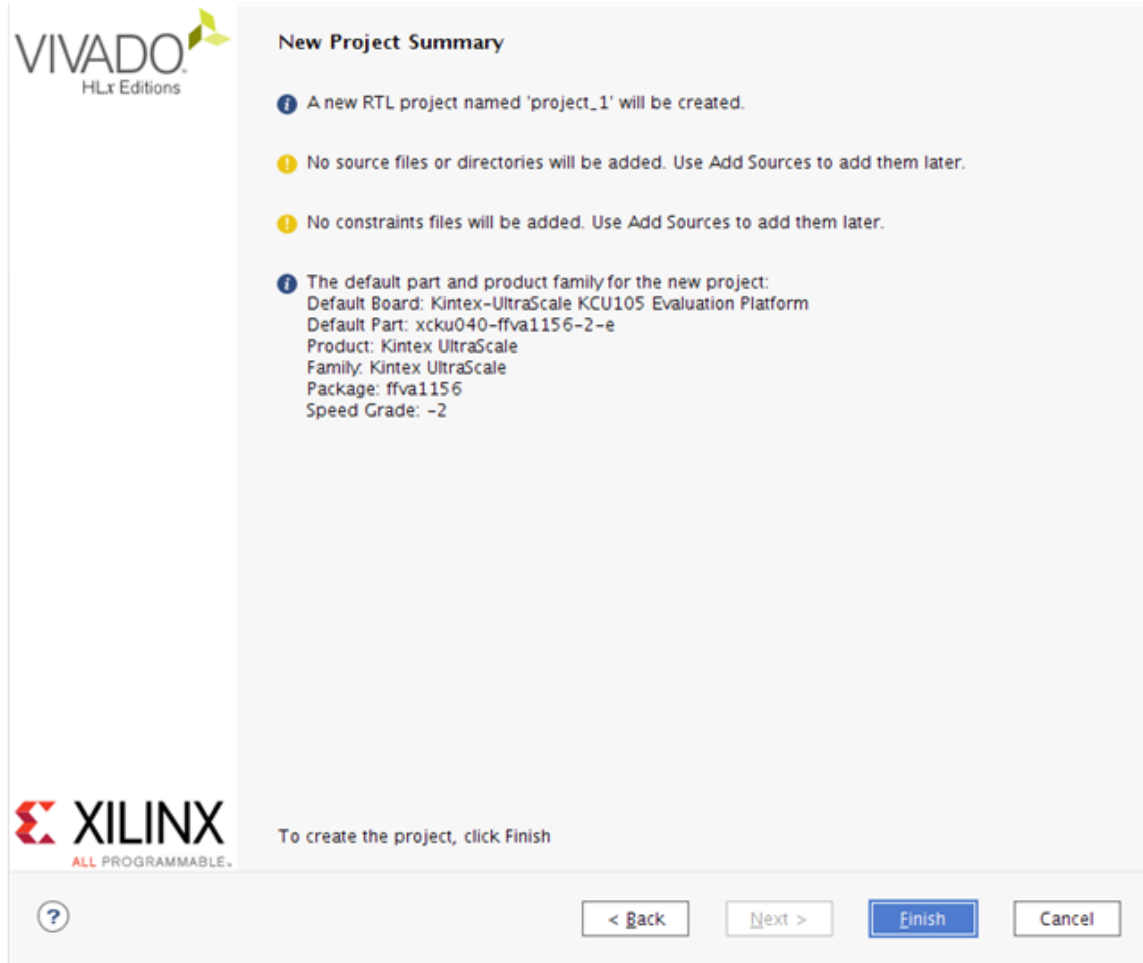

Figure 5-4: New Project Summary
- Click **Finish** (Figure 5-4).